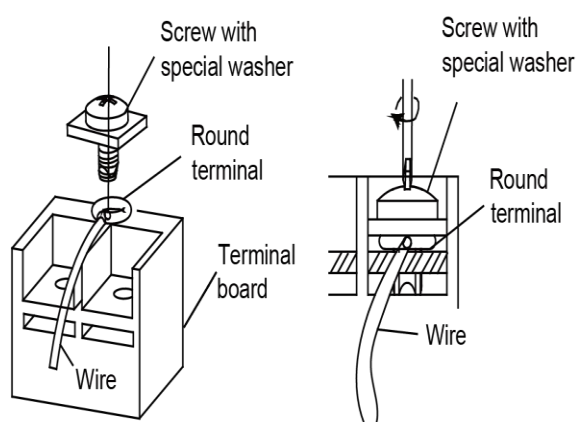

Figure 3-2-7
- (1) Cut the wire end with a wire cutter or wire-cutting pliers, and then strip the insulation about 10 mm (3/8").
- (2) Using a screwdriver, remove the terminal screw (s) on the terminal board.
- (3) Using a round terminal fastener or pliers, securely clamp a round terminal to each stripped wire end.
- (4) Position the round terminal wire, and replace and tighten the terminal screw with a screwdriver. (Figure 3-2-7)